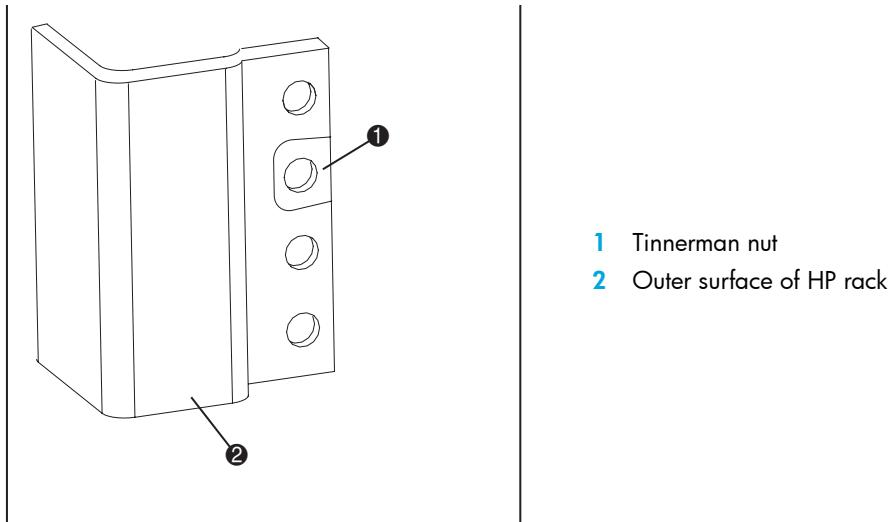

Figure 19 Installing a Tinnerman nut on the rack-front rail in U1
5. Install a Tinnerman nut in the top holes of U1 for both the left and right rack-front uprights (Figure 19).